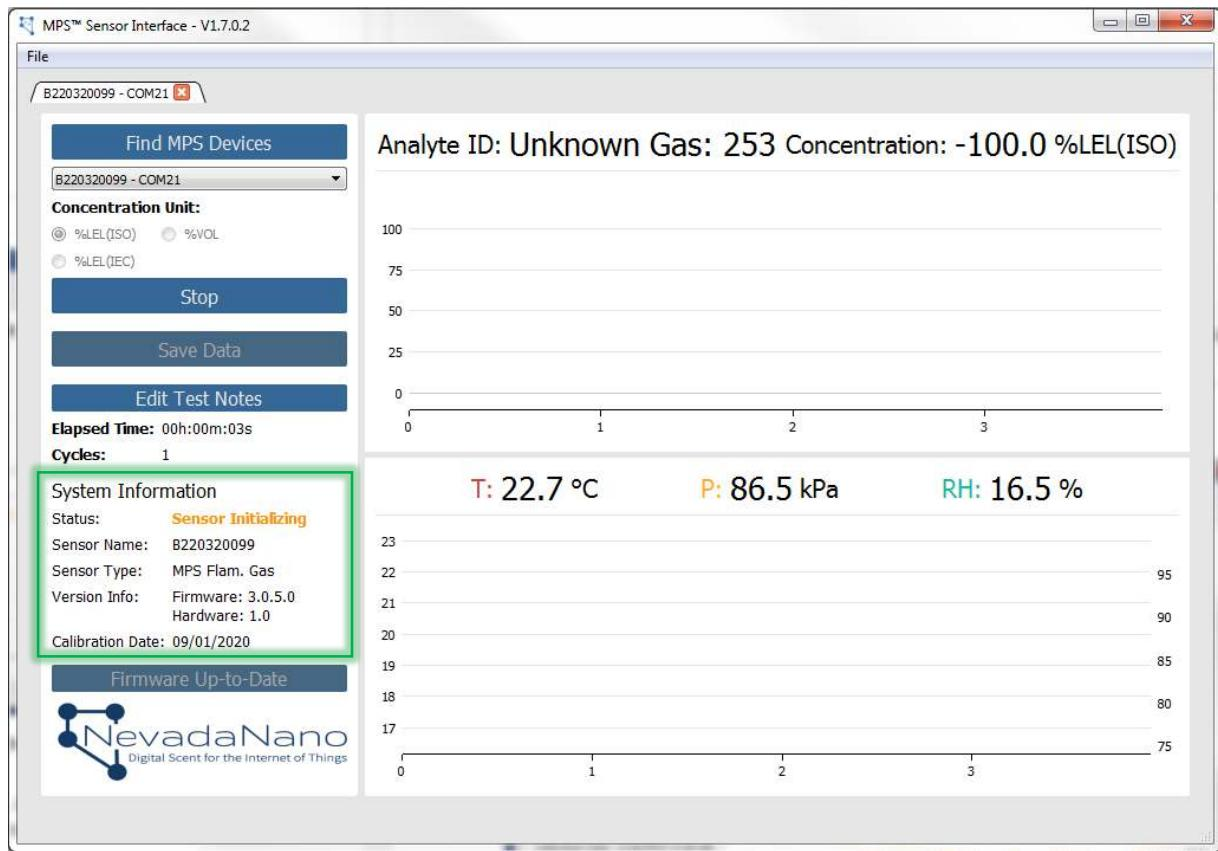

Figure 7 – Acquiring sensor environmental baselines at the beginning of a test.
2. The unit will acquire 10 baseline readings (Figure 7, highlighted in green). After this stabilization period, the sensor is ready for testing.